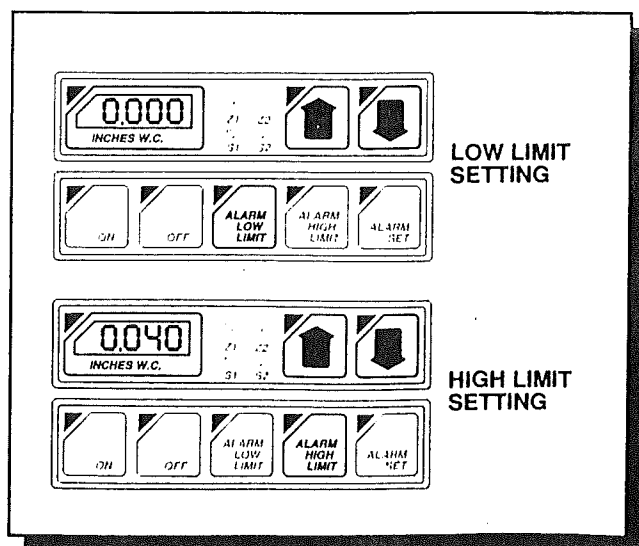

Figure 2 Function test settings
1. Temporarily remove pressure sensing tube from Neg-A-Master port (16) or (17).
- Press **ALARM LOW LIMIT** (3).
- Set the low limit to "0.000" with cursors (8) and (9) (See Figure 2).
- Press **ALARM SET** (5) to establish the lower limit.
- Press **ALARM HIGH LIMIT** (4).
- Set the high limit to "0.040" with cursors (8) and (9) (See Figure 2).
- Press **ALARM SET** (5) to establish the higher limit.